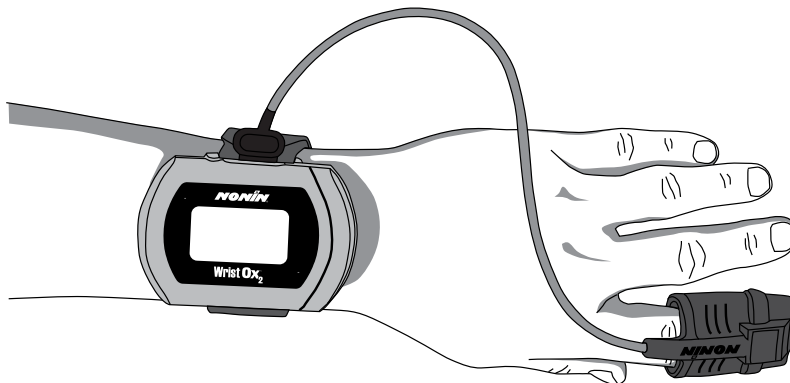

Figure 19: Apply Sensor to Patient
7. Apply the sensor to the patient (figure 19). Refer to the sensor Instructions for Use for proper sensor application sites and sensor application cautions and warnings.